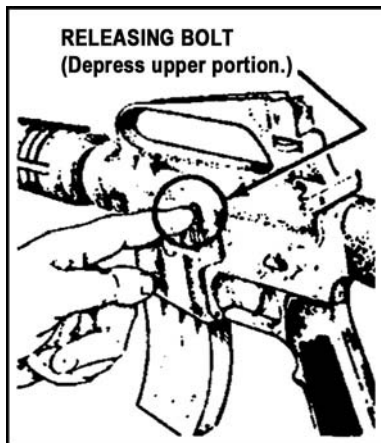

Figure 071-311-2027-7. Bolt catch
(1) Depress the upper portion of the bolt catch to release the bolt (figure 071-311-2027-7).
(2) Tap the forward assist to ensure that the bolt is fully forward and locked (figure 071-311-2027-8).